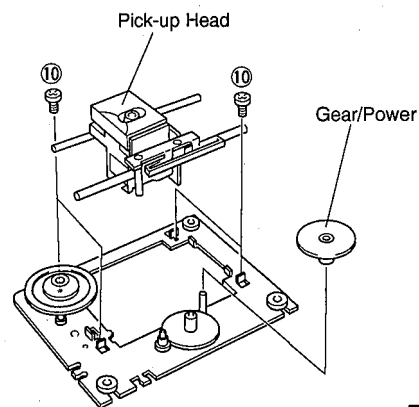

Fig. 6
- Pull out the Gear/Power as shown in Fig. 6.
- Remove 4 screws (⑩) and then remove the Pick-up Head as shown in Fig. 6.